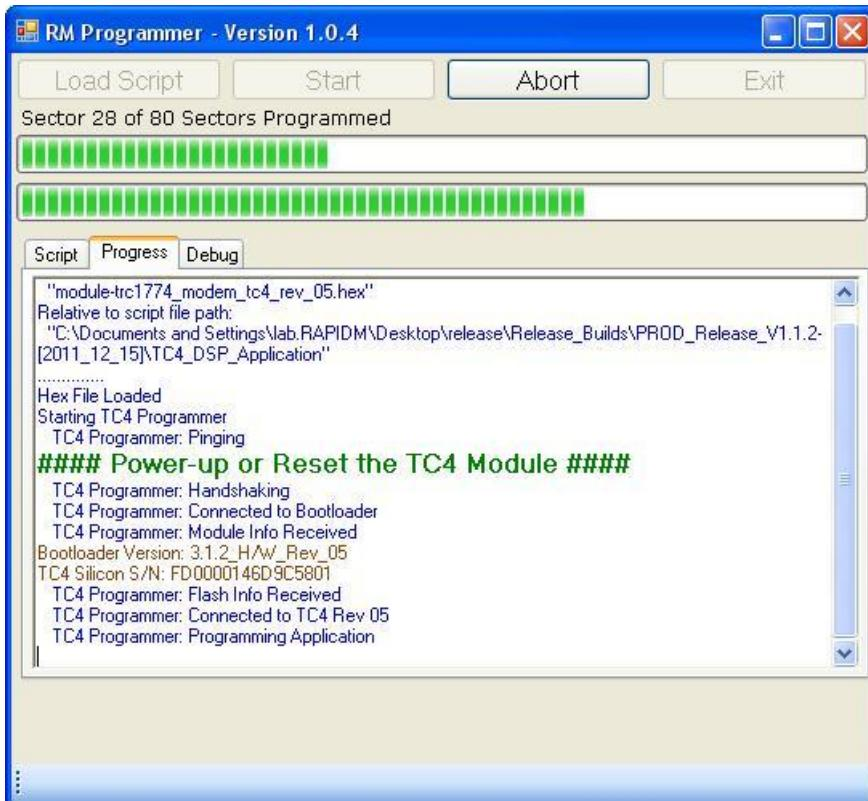

Figure 39: RM Programmer during TC4 Application programming
- 7) Reset or power up the unit and the process will begin. During programming the RM Programmer will advance through a number of sectors and the update progress will be displayed as shown in Figure 39.